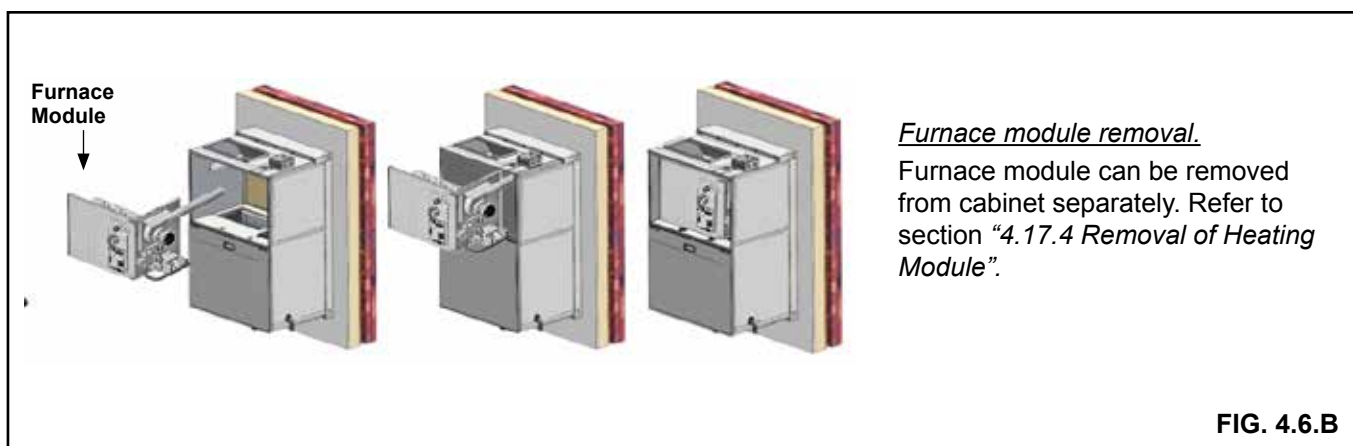

FIG. 4.6.B
3. Use a flat washer with each 1/4"-20 x 1 1/4" screw. Secure Condo Pack unit to the Wall Sleeve using five 1 1/4" screws through the isolation grommets in the five holes on the Wall Sleeve top mounting bracket (see FIG. 4.6.C).